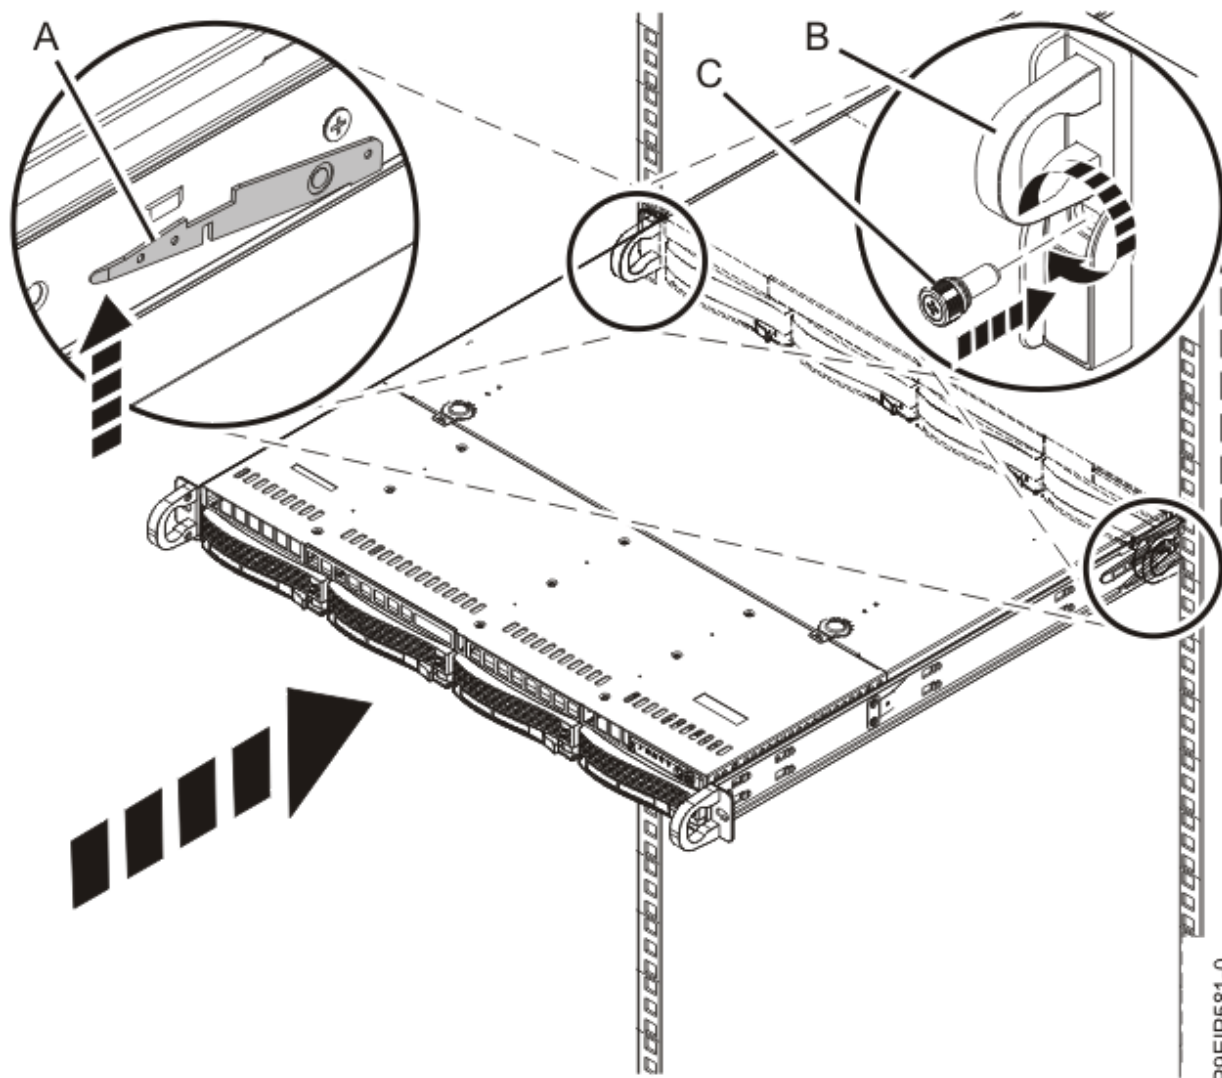

Figure 80. Placing the system into the operating position
5. Release the rail safety latches (**A**) by lifting them upward, as shown in Figure 80 on page 103, then push the system fully into the rack.